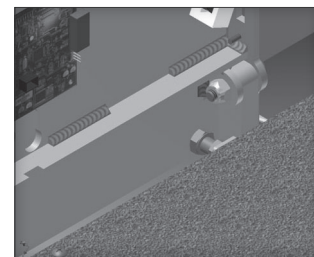

Figure 8-2
**14. If necessary, loosen leveling bolts on the back side of the platform.** Loosen the jam nut on each and turn the bolts in or out to position the platform. [Figure 8-2]